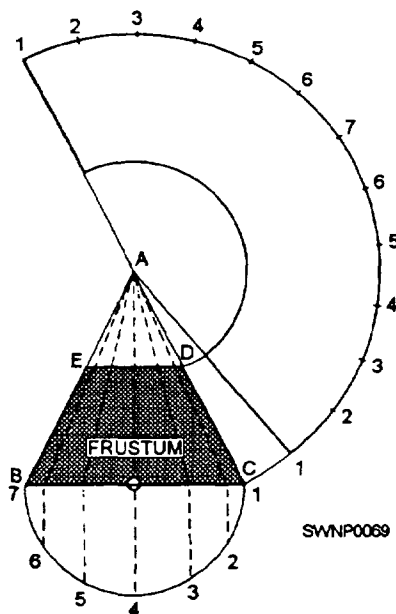

Figure 2-52.—Radial line development of a frustum of a cone.
The procedure for developing a frustum of a right cone is given below. Check each step of the procedure against the development shown in figure 2-52.
4. Set the dividers equal to the distance of the step-offs on the half-plan and step off twice as many spaces on the arcs as on the half-plan; number the step-offs 1 to 7 to 1, as shown in the illustration (fig. 2-52).